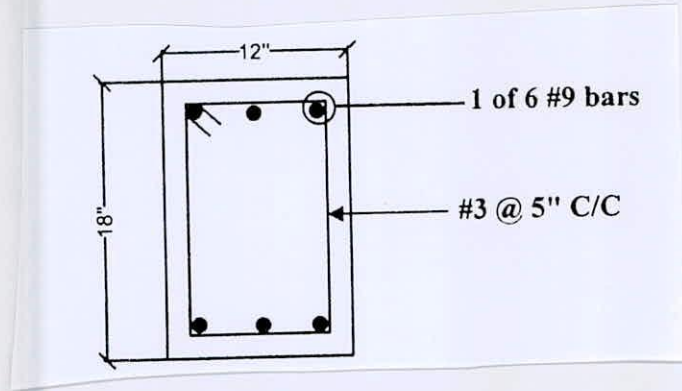

Figure: 5
6. (a) Cross Section of a rectangular RCC beam at a beam-column joint in a IMRF building is shown in Fig. 5. Based on ETABS analysis, the negative reinforcement (top bars) required at the end of the beam is 2.86 in^2 . Determine the development length l_d at which the negative bars can be cut off. Use simplified equations of Table 1. *Given: clear cover = 1.5", for normal weight concrete, $f'_c = 3 \text{ ksi}$ and $f_y = 60 \text{ ksi}$.* (25)